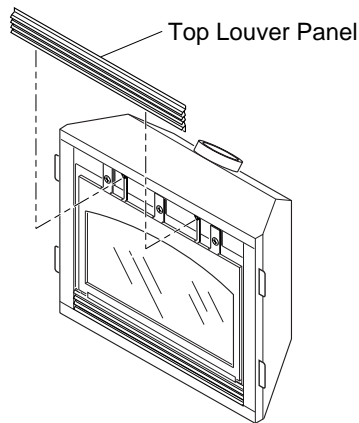

Figure 2 - Removing Top Louver Panel
1. Remove the upper louver panel by lifting upward and out (see Figure 2).